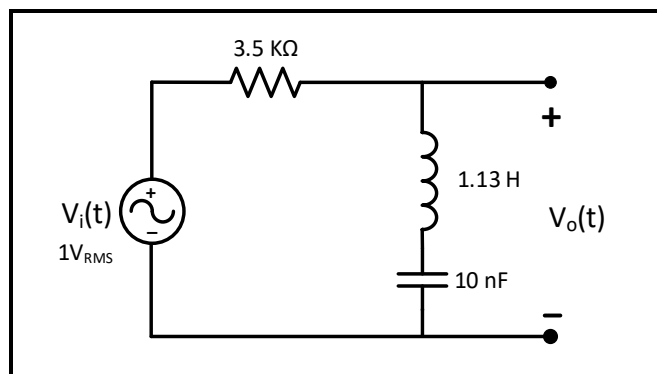

Figure 9.16
7. Calculate the center frequency (f_0), two cut-off frequencies (f_{C1} and f_{C2}), and bandwidth (β) in Hertz for the circuit in Figure 9.16 with two values of R (7.1 k Ω and 3.5 k Ω)
1. Connect the circuit of Figure 9.16, with a sinusoidal input voltage at 1 V_{RMS} , use decade box for R.
6. **Repeat steps (3-5) for the circuit of figure 9.16 using $R = 7.1 \text{ k}\Omega$, record results in Table 9.6.**